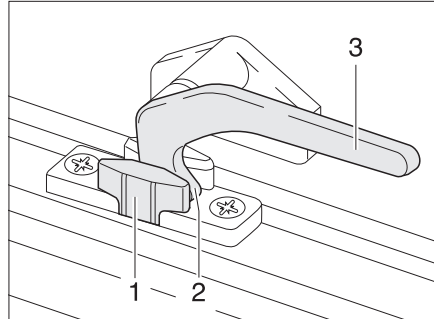

Fig. 40 Catch lever in the "continuous ventilation" position
- "Continuous ventilation" (Fig. 40)
- Turn the catch lever (Fig. 40,3) a quarter turn towards the centre of the window.
- Return the catch lever to its initial position. The locking catch (Fig. 40,2) has to be moved into the recess of window catch (Fig. 40,1).